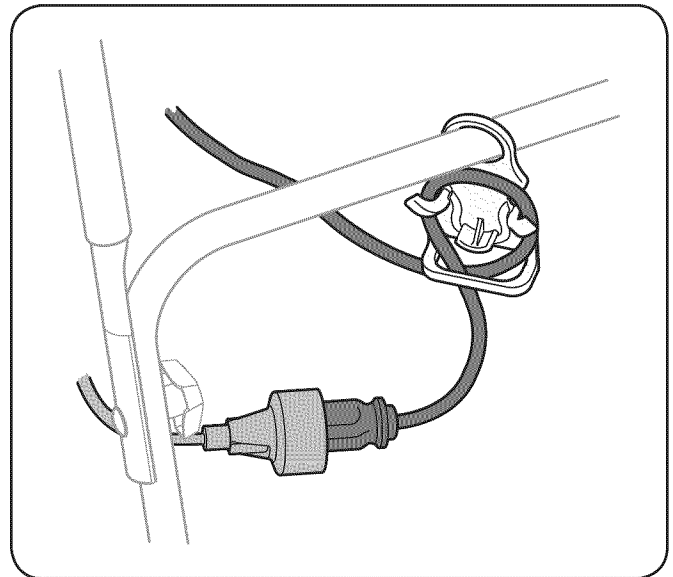

Figure 3-10
3. Position the loop over the clips found on the strain reliever and pull down until the cord fits snugly into the clip. See Fig. 3-10.
4. Plug the snow thrower power cable into the extension cord. See Fig. 3-10.